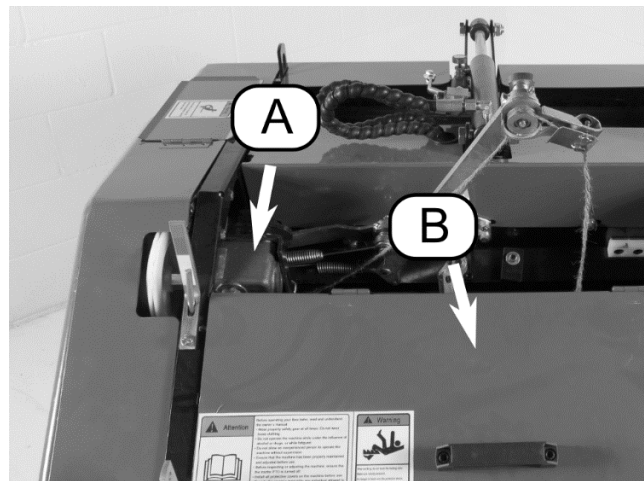

Figure 38 Twine gearbox
The twine gearbox (Figure 38, A) comes with a small amount of gear oil. See Section 6.3 for gear oil specifications. To change the oil, you will first need to remove the twine storage container lid (B). There are several screws securing it. Remove the screws and the lid to gain access to the side of the box to drain and more easily re-fill the oil. Measure the amount drained and re-fill the gearbox with the same amount.